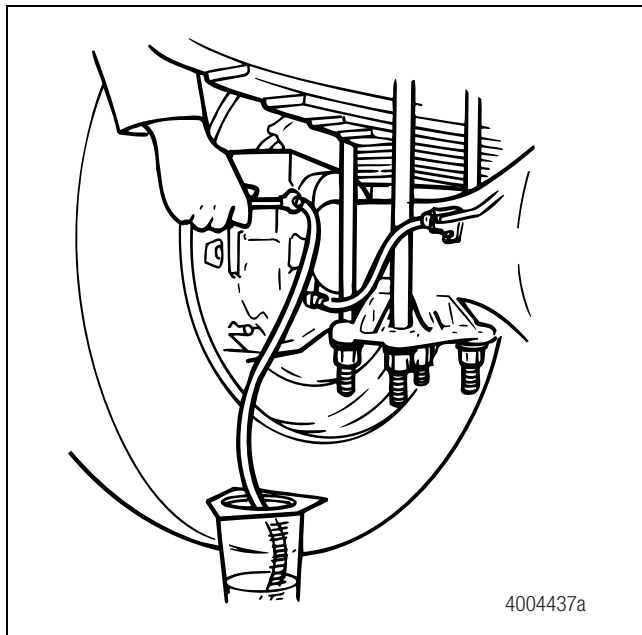

Figure 4.18
- C. Use a wrench to open the bleeder fitting screw. Figure 4.18.